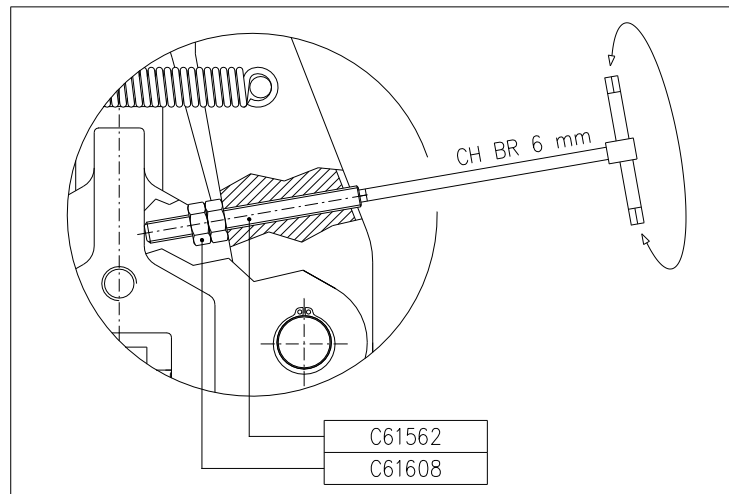

Figure 1
4. Adjust the screws C61562 located between the levers using a n. 6 spanner (Figure 1), until the weight of the thruster is balanced; when balanced lock the screw by tightening the nuts C61608.